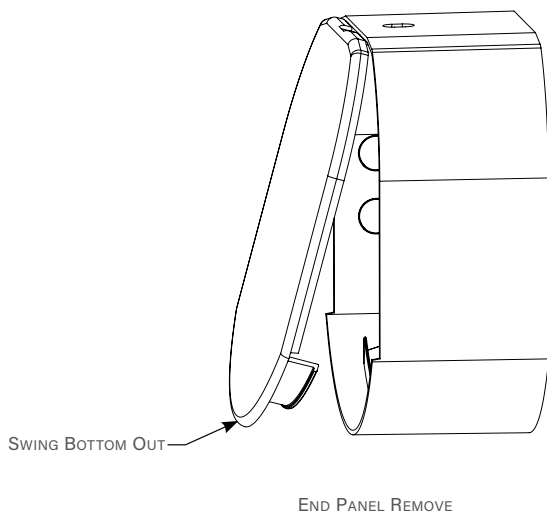

Figure 8
2. Swing the bottom out (Figure 8).